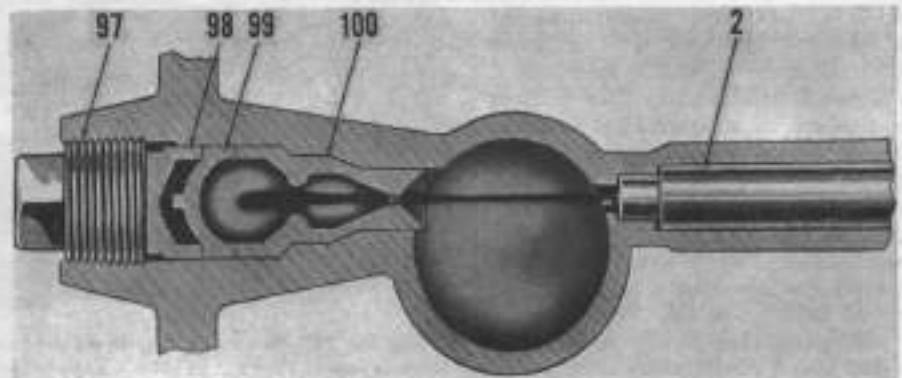

Fig. MH200—Energy cell (pre-combustion chamber) is located in each cylinder and opposite to the nozzle.
108. R & R AND CLEAN. When the engine smokes excessively or fuel consumption is above normal the cause may be sometimes traced to an excessive amount of carbon deposit in the energy cells. An emergency job of cleaning the cells Fig. MH200 can be done by removing the cell cap (99) and using a hooked wire to form a scraper.